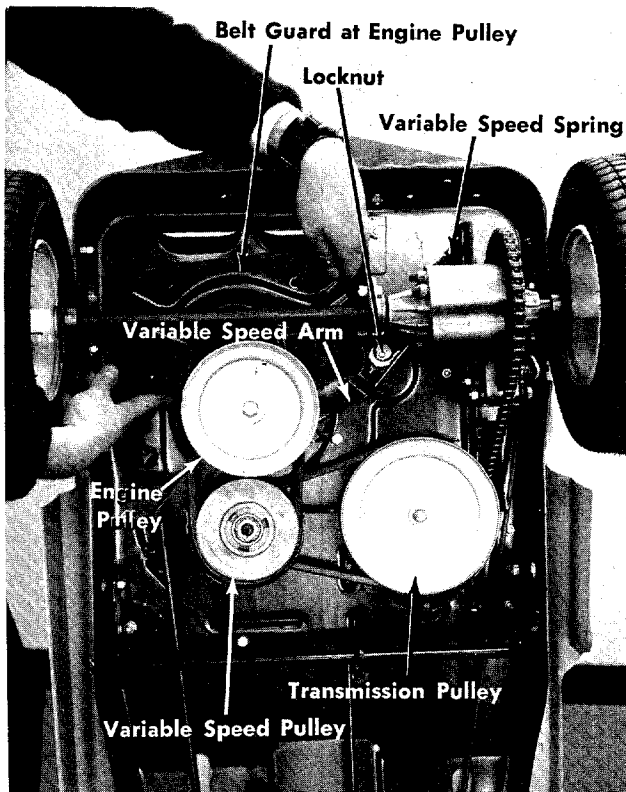

FIGURE 20. ENGINE BELT GUARD REMOVAL
- Step 4. Remove the belt guard at the engine pulley. See figure 20.
- Step 5. Remove the nut and lockwashers at the transmission pulley and variable speed pulley. See figure 20.
- Step 6. Remove the locknut at the variable speed arm and lift off the spring. See figure 20.